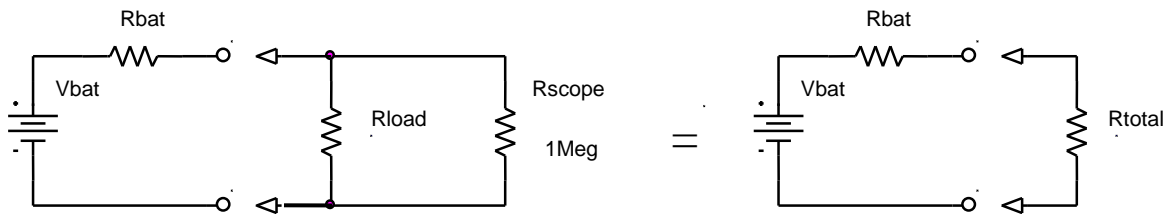

Figure B-4.
Note that the voltage divider rule applies only to series circuits. Any time we use our measuring devices to measure the voltage across a device, as illustrated in **Figure B-4**, we are combining that device in parallel with the resistance we are measuring. So just connecting the oscilloscope will affect the quantity to be measured. In this case the effective load resistance on the battery is R_{total} and it is the parallel combination of the scope impedance ($1\text{Meg}\Omega$) with the resistance of the load resistor (R_{load}). This results in total load resistance, R_{total} .
- As noted under Figure B-4, the information you have just obtained about each battery using a voltage divider can be used to determine the internal resistance of the battery. What is the internal resistance of the two batteries characterized by your team?